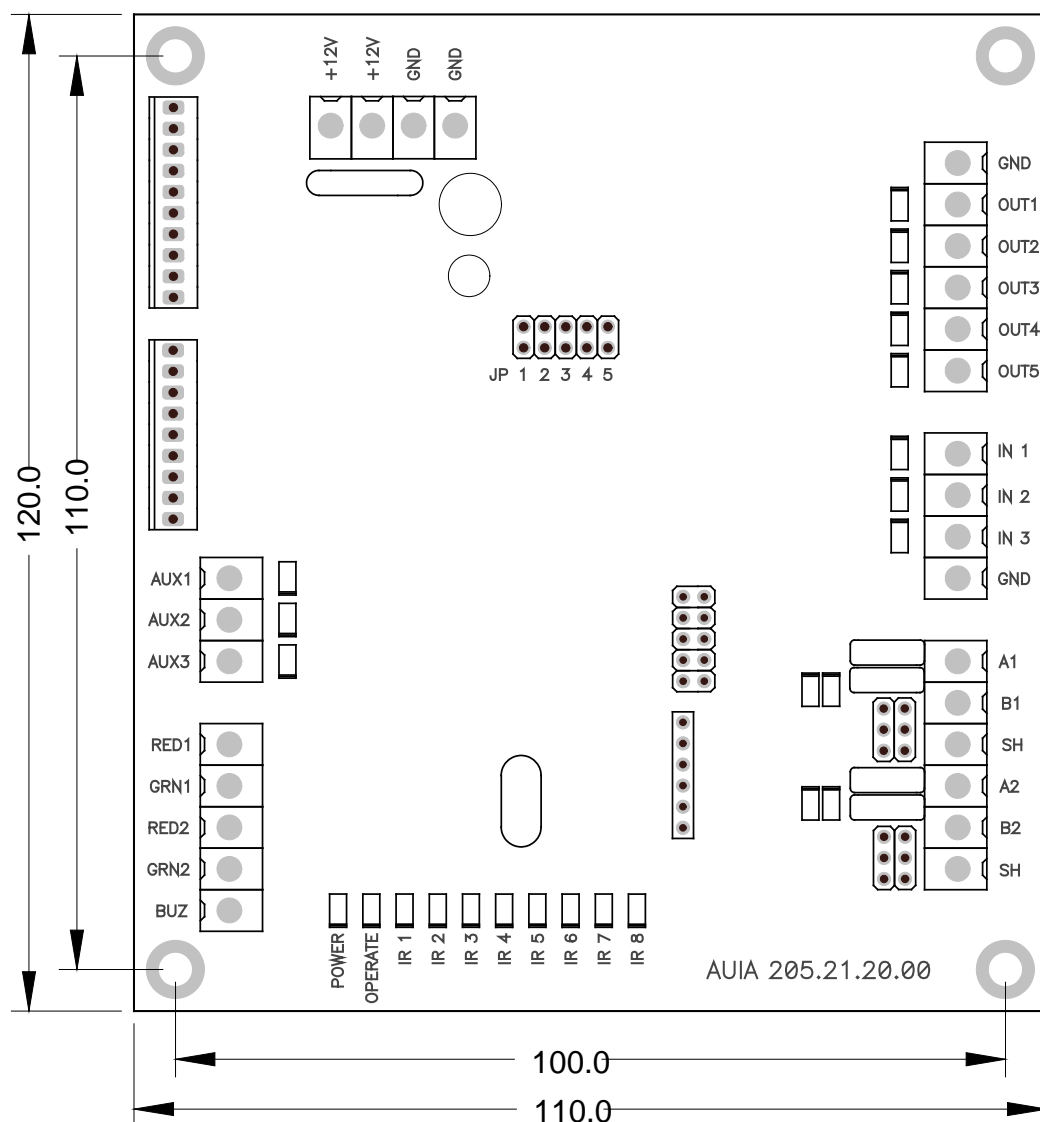

Figure 3 – Appearance of controller AUIA.205.21.20.00
1.8.1.1 Appearance of controller AUIA.205.21.20.00 is shown in the Figure 3.